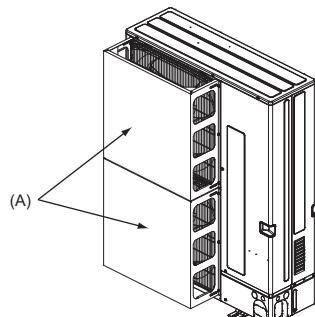
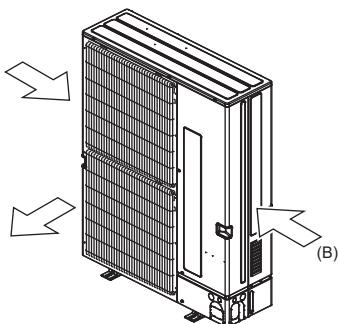

Fig. 2-4
Fig. 2-5
- Install an optional air outlet guide and air guide if the unit is installed in a location where strong winds from a typhoon, etc. may directly enter the air outlet. (Fig. 2-4)
- (A) Air outlet guide
- (B) Wind direction
- Position the unit so that the air outlet blows perpendicularly to the seasonal wind direction, if possible. (Fig. 2-5)
- (A) Air outlet